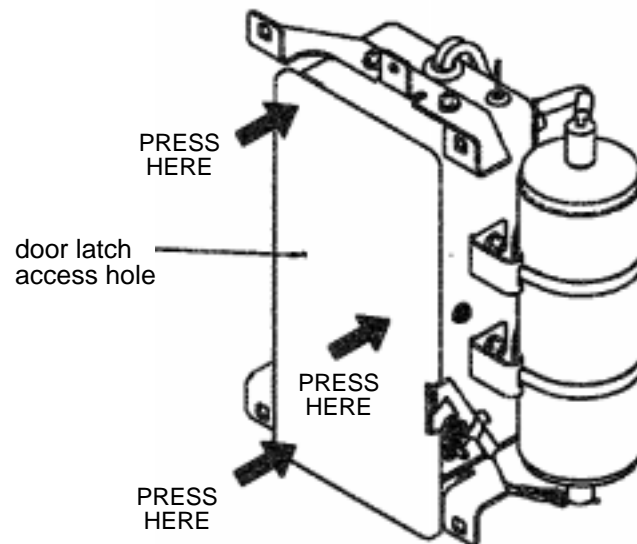

Figure 8 - Closing the Door on the Lavatory Mask Assembly
- Step 6. Finish closing the door by pressing firmly in the centre of the door near the striker until the door latches as shown in Figure 8, and then verify that the door is locked.